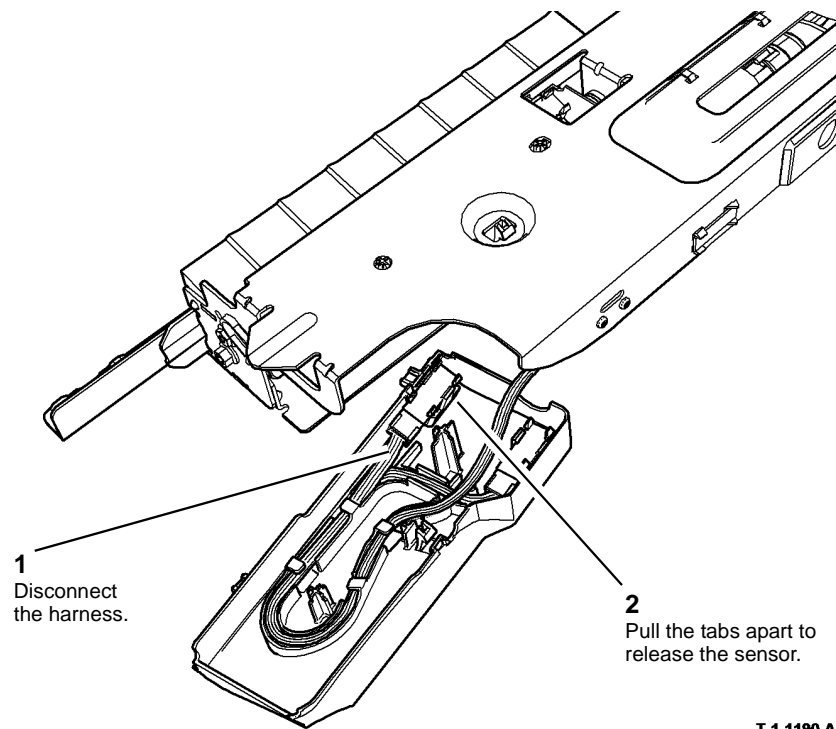

Figure 2 Sensor removal
3. Remove the tray 3 feed sensor, Figure 2.